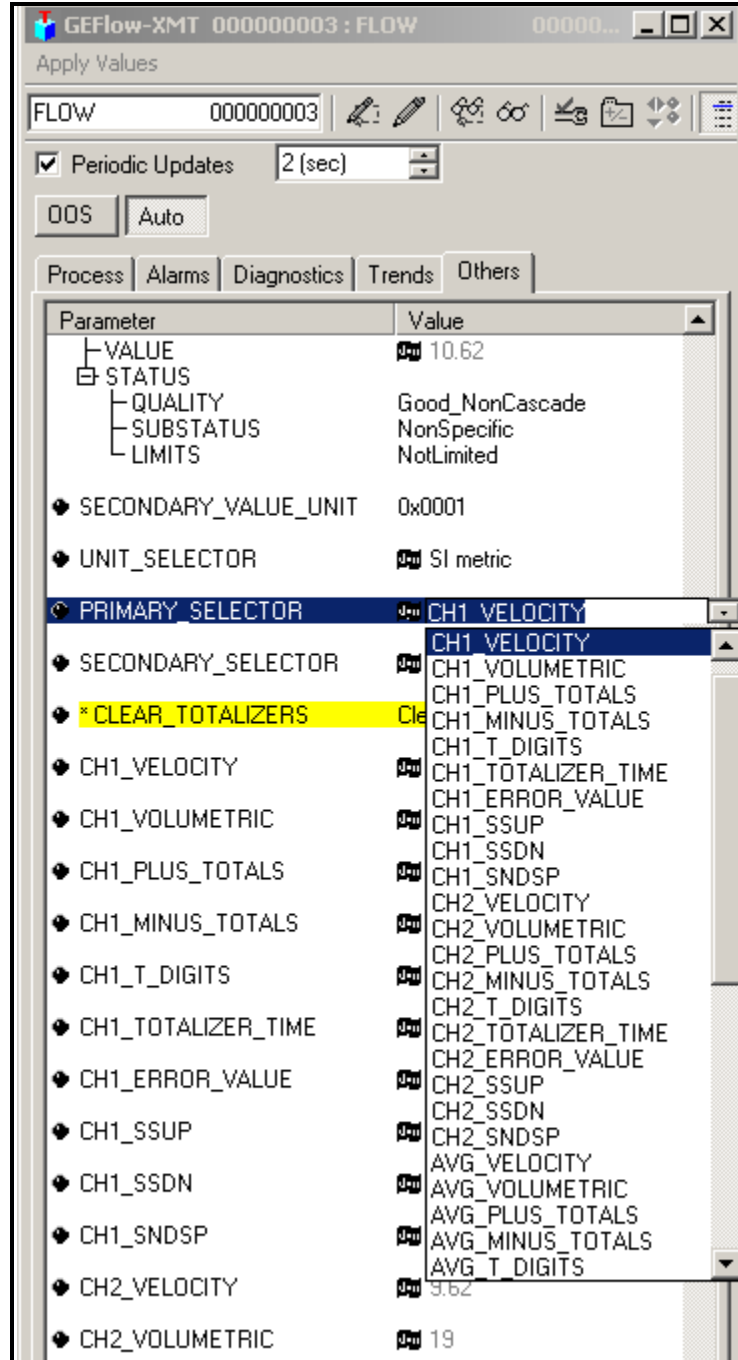

Figure D-2: Primary Selector Drop Down List
2. Select the **Others** tab and open the drop down list for the PRIMARY\_SELECTOR and SECONDARY\_SELECTOR (see Figure D-2 on page D-3).
3. Choose the unit from the list (see Figure D-2 on page D-3).